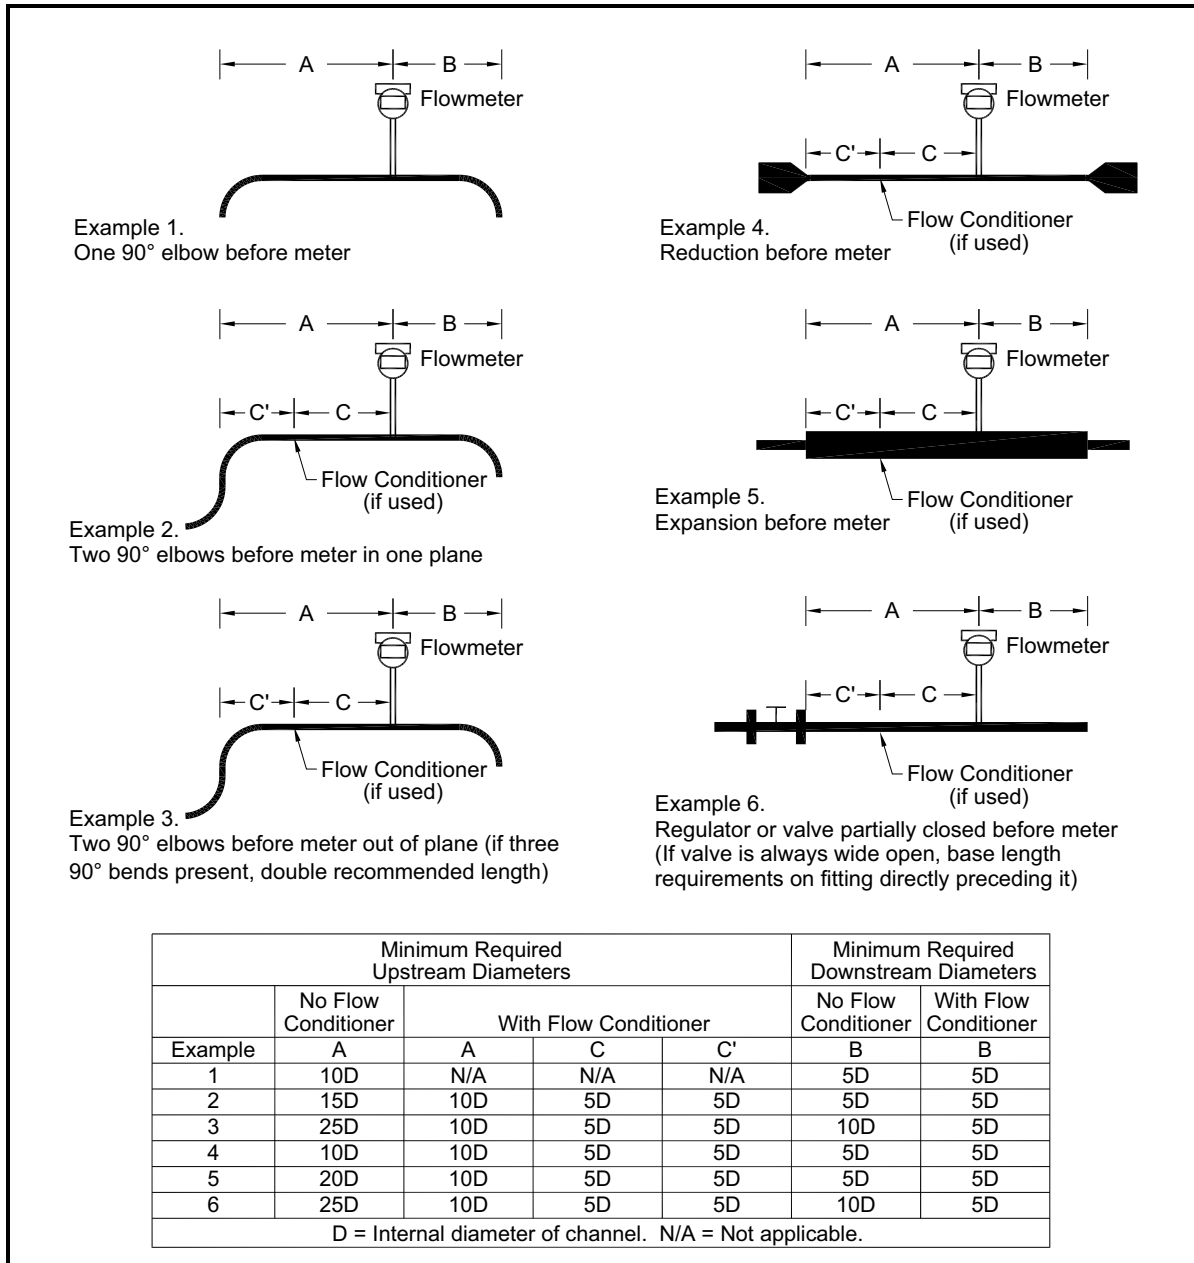

Figure 4: Recommended Pipe Length Requirements for Installation of Series MV80 & MV82
2. The location meets the required minimum number of pipe diameters upstream and downstream of the sensor head as illustrated in *Figure 4 on page 10*.
Select an installation site that will minimize possible distortion in the flow profile. Valves, elbows, control valves and other piping components may cause flow disturbances. Check your specific piping condition against the examples shown in *Figure 4* below. In order to achieve accurate and repeatable performance install the flowmeter using the recommended number of straight run pipe diameters upstream and downstream of the sensor.
2. Confirm that the installation site meets the minimum upstream and downstream pipe diameter requirements. See *Figure 4 on page 10*.